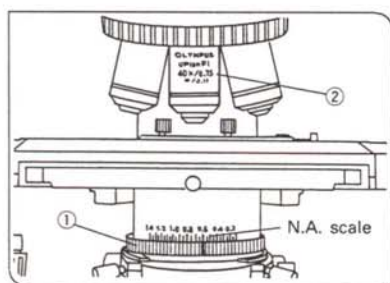

Fig. 37
Set the condenser numerical aperture to about 80% of the NA value ② indicated on the objective. (Fig. 37)